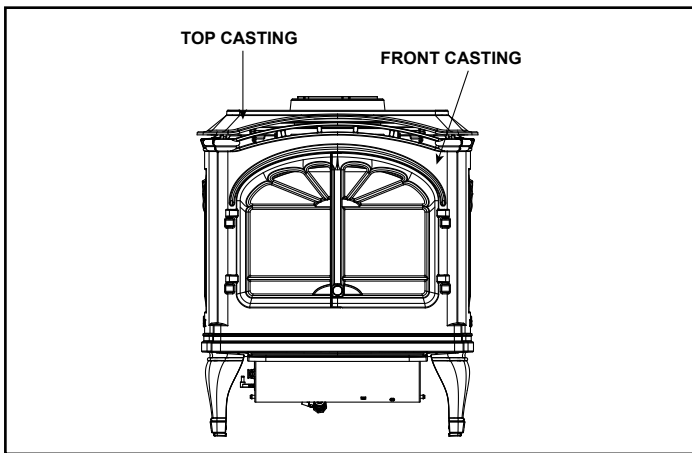

Figure 6.10 Remove Casting
10. Remove front casting, if not previously removed, by grasping it at the top and lifting up. The top casting may need to be lifted slightly to accommodate removal of the front casting. See Figure 6.10.